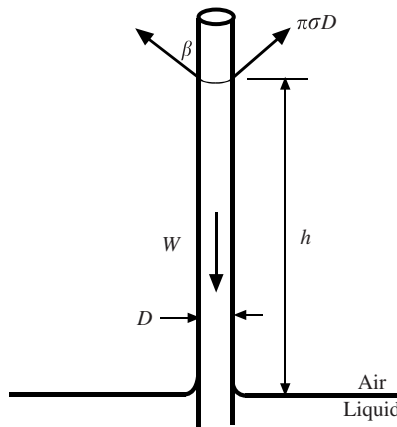

Figure 1.7 The rise of a liquid in a small tube.
A second application where surface tension causes an interesting result is in the rise of a liquid in a capillary tube. The free-body diagram of the water in the tube is shown in Fig. 1.7. Summing forces on the column of liquid gives
- 1.7** Water at 30°C is able to climb up a clean glass of 0.2-mm-diameter tube due to surface tension. The water-glass angle is 0° with the vertical ($\beta = 0$ in Fig. 1.7). How far up the tube does the water climb?